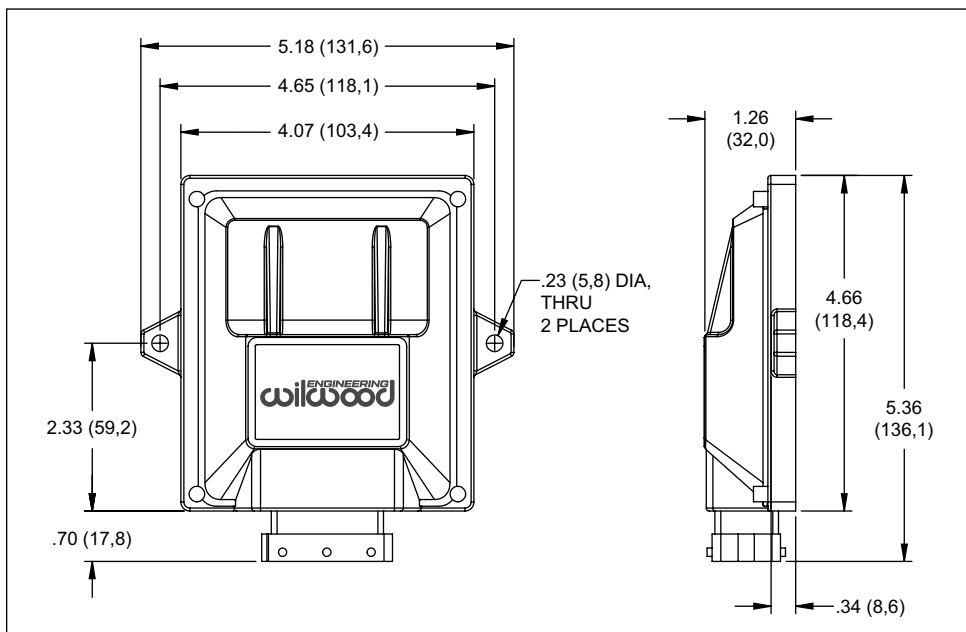

Figure 1. EPB Control Unit
- EPB CONTROL UNIT (ECU) - Securely mount the EPB control unit in a suitable location inside the vehicle, such as under the dash. **CAUTION:** Avoid mounting controller in proximity of alternator or ignition system components. Be sure to allow adequate access to the control unit cable connector. See Figure 1 for mounting dimensions.